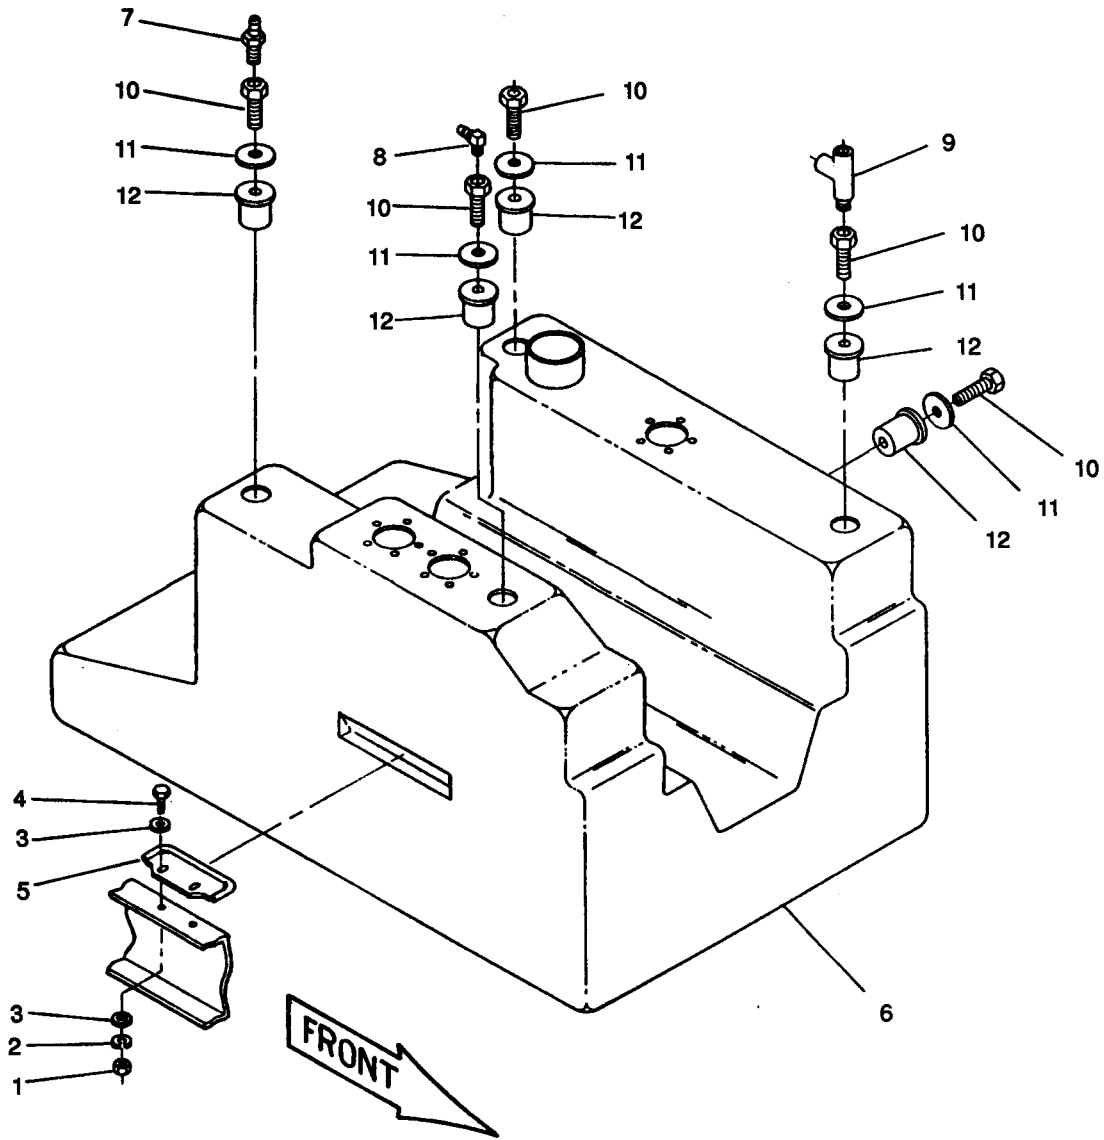

Figure 4-4. Fuel Tank
- c. Inspect fuel tank (6, FIGURE 4-4) for leaks, cracks, missing hardware, and other damage.
- f. Remove nuts (1, FIGURE 4-4), lockwashers (2), washers (3), bolts (4) and plates (5) securing fuel tank to skid base.
- g. Remove fuel tank (6) from skid base.
- k. Remove fittings (7) and (8) from excess fuel studs (10) on right side of tank.
- l. Remove fitting (9) from excess fuel stud (10) on left side of tank.
- m. Remove studs (10), washers (11), and bushings (12) from fuel tank.
- b. Install bushings (12, FIGURE 4-4), washers (11), and studs 910) in fuel tank (6).
- c. Install fitting (9) in excess fuel stud (10) on left side of fuel tank.
- d. Install fittings (7) and (8) in excess fuel studs (10) on right side of fuel tank.
- h. Install fuel tank (6) in skid and secure with plates (5), bolts (4), washers (3), lockwashers (2), and nuts (1).